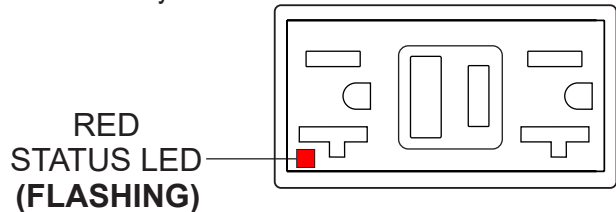

Figure 66. GFCI Receptacle (Red Flashing LED)
6. If the status LED (Figure 66) is **flashing (RED)**, **DO NOT** use the GFCI receptacle. Replace it immediately.